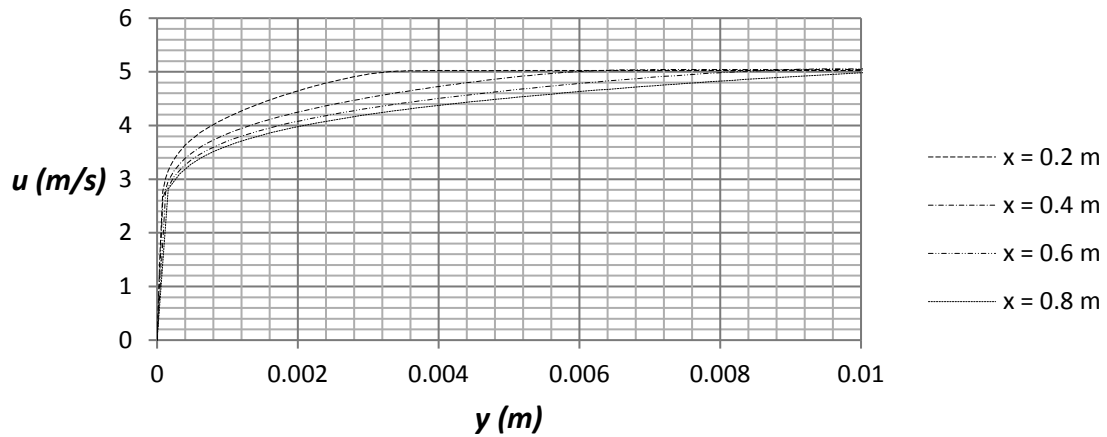

Figure 2.30a) Flow Simulation comparison between turbulent boundary layers at  $Re_x = 10^6 - 4.04 \cdot 10^6$
32. Place the file “**graph 2.30a)**” on the desktop. Repeat step 24 and choose the sketch **x = 0.2, 0.4, 0.6, 0.8 m** and check the box for **Velocity (X)**. Rename the xy-plot to **Turbulent Velocity Boundary Layer**. An Excel file will open with a graph of the streamwise velocity component versus the wall normal coordinate; see figure 2.30a). We see that the boundary layer thickness is much higher than the corresponding laminar flow case. This is related to higher Reynolds number at the same streamwise positions as in the laminar case. The higher Reynolds numbers are due to the selection of water as the fluid instead of air that has a much higher value of kinematic viscosity than water.
As an example, the turbulent boundary layer thickness from figure 2.30a) is 3.55 mm at  $x = 0.2$  m which can be compared with a value of 4.45 mm from equation (2.4), see table 2.2.
- 2.6 Determine the displacement thickness, momentum thickness and shape factor for the turbulent boundary layers in figure 2.30a) and determine the percent differences as compared with empirical data.